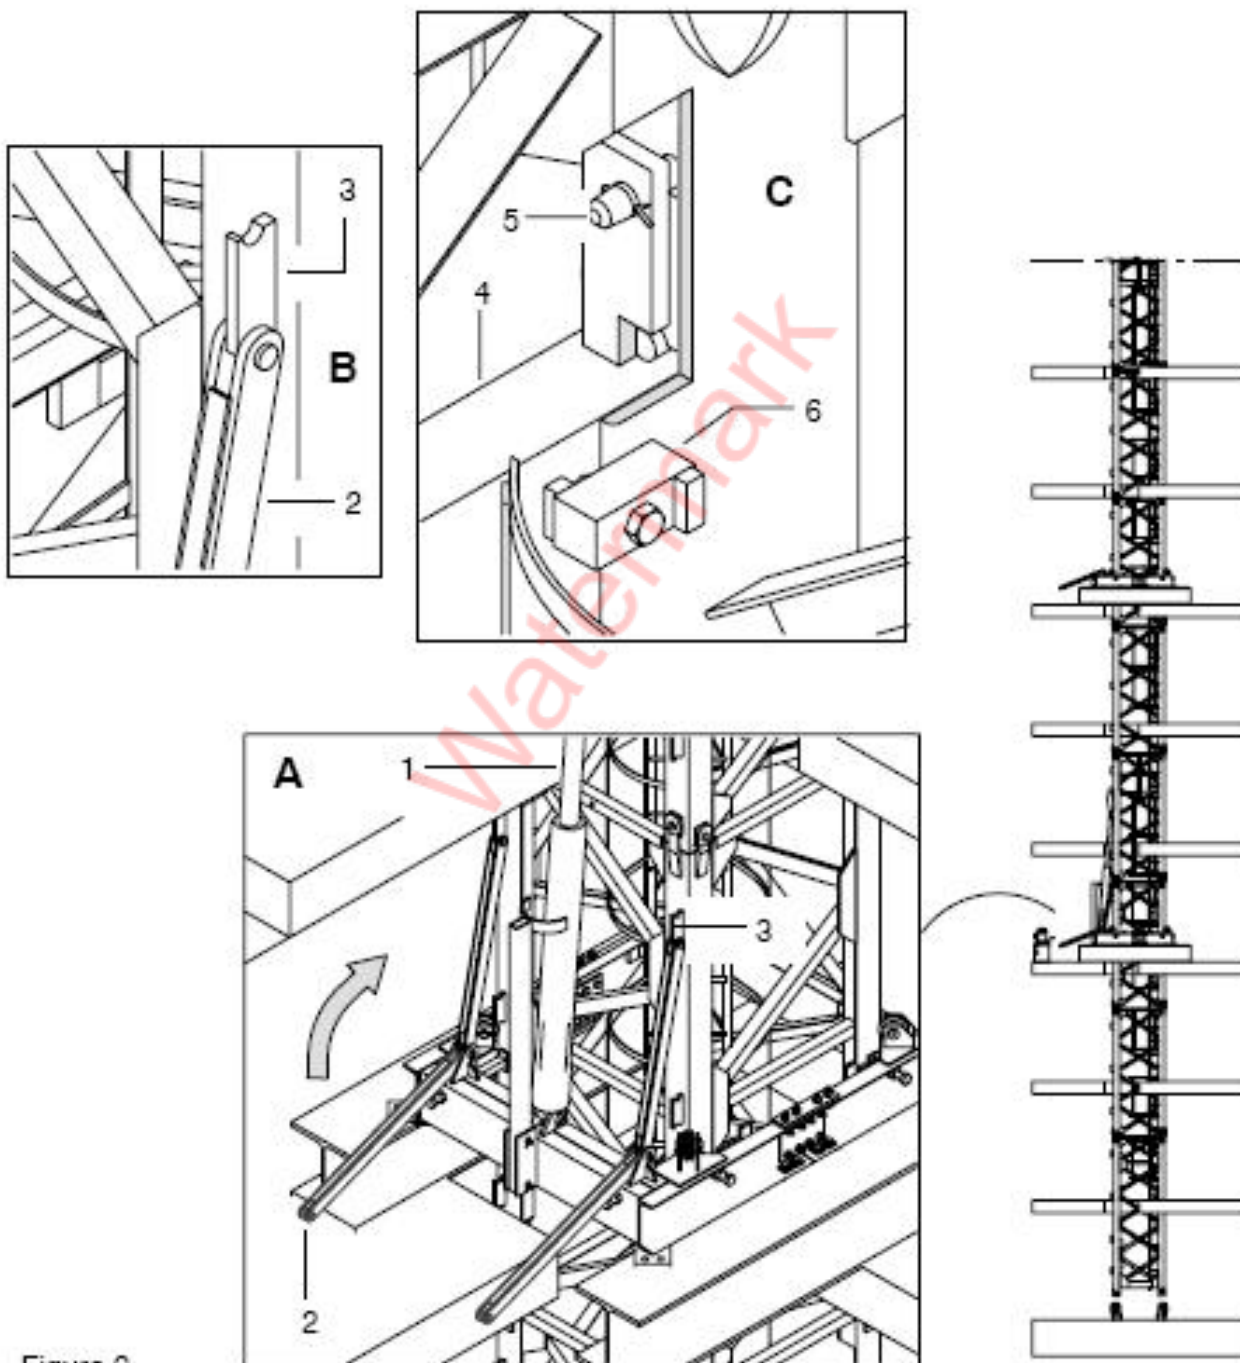

Figure 2
Having finished balancing, continue extending the cylinder (1) in order to allow folding down the connecting links (2) under the lugs (3) (Detail A – Figure 2).
Lower again in order to rest the lugs (3) onto the links (2) (Detail B – Figure 2).
Unlock the telescoping yoke (4) by withdrawing the shafts (5) and the fixing flanges (6) (Detail C – Figure 2). Retract the cylinder (1) and lock again the telescoping yoke (4) onto the set of lugs below.